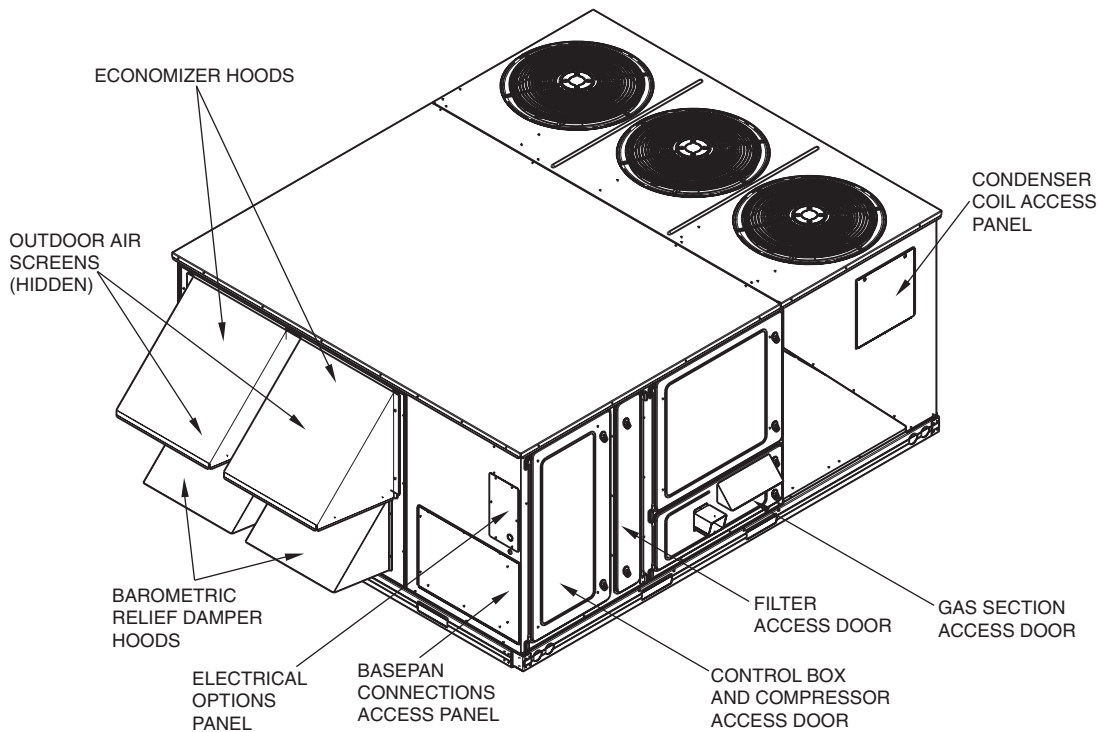

Fig. 1 — Panel and Filter Locations
2. Open gas section access door. See Fig. 1.